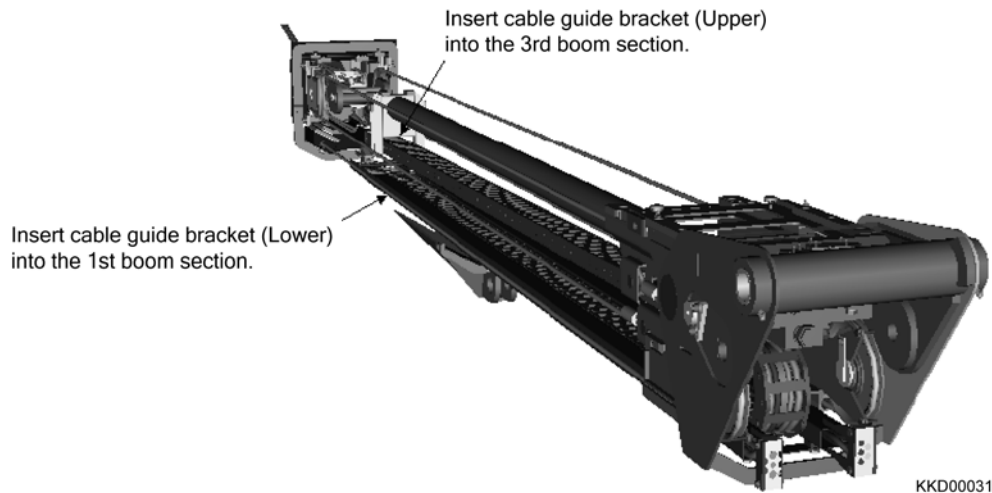

Fig. 2-61
- 10) Insert the cable guide into the boom section. (Fig. 2-61)